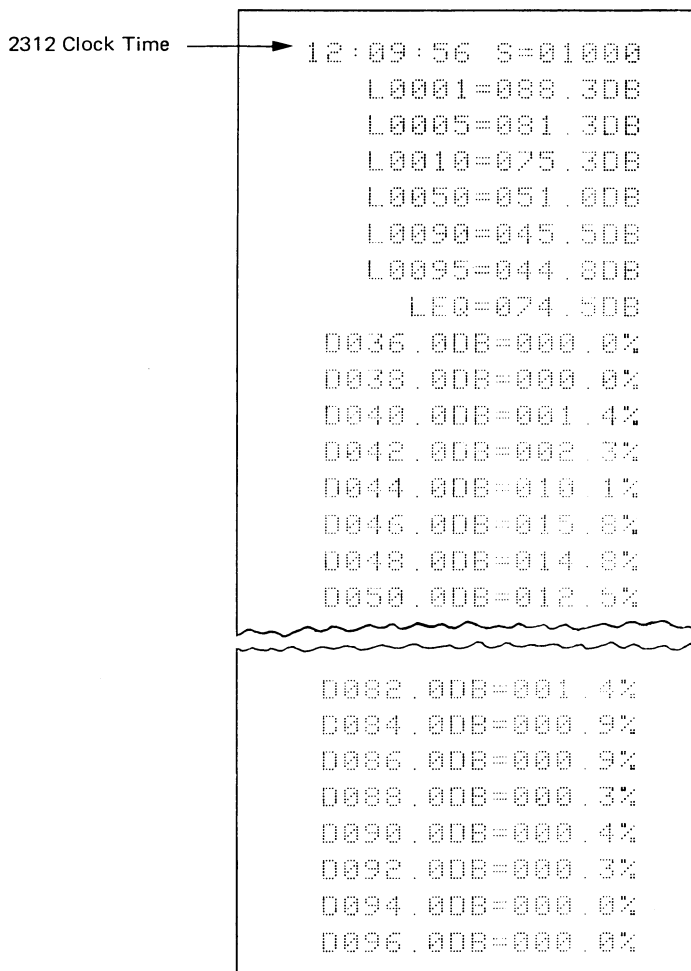

Fig.3.10. Example of 2312 print-out from 4426
Some examples of print-out formats are given in Figs.3.10 and 3.11. Fig.3.10 gives an example of a print-out from the 4426 showing first the time, which is always left-justified, and the accumulated number of samples (S). Following this are various  $L_N$  values, and  $L_{eq}$ , and then a list of distribution (D) functions as percentages. Note that the zeroes are denoted by  $\emptyset$ . Apart from from the time, everything in this example is right-justified. See also the 4426 Instruction Manual.